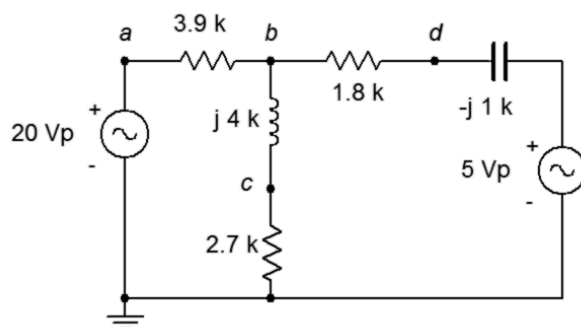

Figure 6.3
- Given the circuit in Figure 6.3, write the mesh loop equations and determine v_b .
6. Use mesh analysis to find the current through the $1.8 \text{ k}\Omega$ resistor in the circuit of Figure 6.3.
48. Use nodal analysis to find the current through the $2.7\text{ k}\Omega$ resistor in the circuit of Figure 6.3.